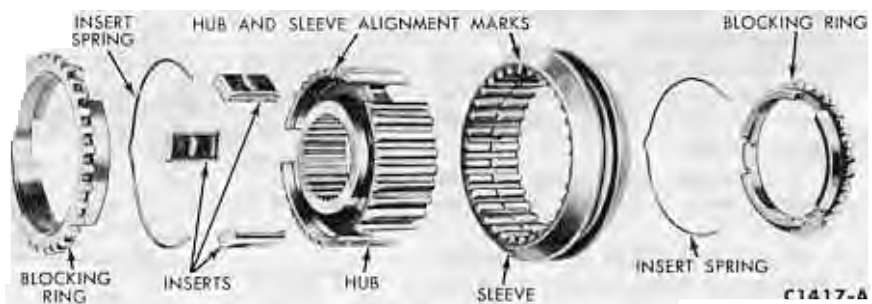

FIG. 19—Second and Third Synchronizer—Disassembled
4. Install one insert spring (Fig. 19) into a groove of the second and third speed synchronizer hub, mak-